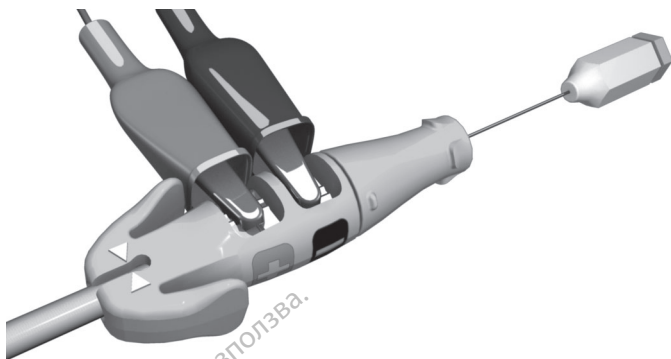

Figure 8. PSA clips attached to Connector Tool
- Attach the PSA cable alligator clips to the Connector Tool cathode (–) spring contact and anode spring contact (+). Use of the Connector Tool will protect the terminal pin from alligator clip damage and prevent bridging between terminal contacts. Fully engage the alligator clips on the cathode and anode spring contacts to avoid inaccurate baseline measurements (Figure 8 PSA clips attached to Connector Tool on page 21).